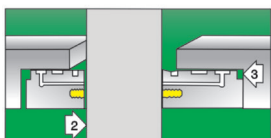

Figure 2
2. When the valve experiences pipeline pressure, the wedge is forced into contact with the PTFE o-ring on the outlet seat, compressing the wedge until it is on the steel seat. This creates double sealing - first PTFE-to-metal sealing and then metal-to-metal sealing. The seat is pressed tightly against the groove. At this point (figure 2, item 3), the o-ring prevents any back fluid from entering.